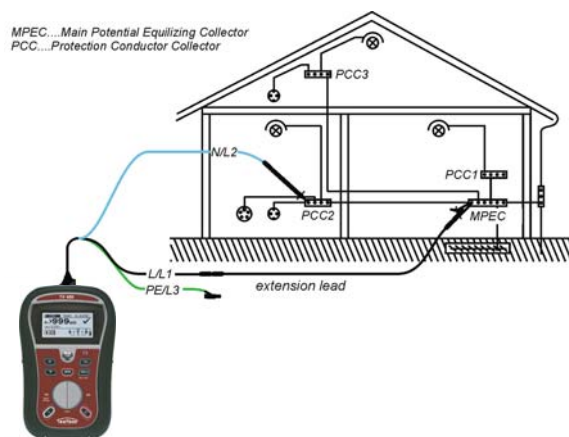

Figure 5.9: Connection of 3-wire test lead plus optional extension lead
- Connect** the test leads to the appropriate PE wiring (see *figure 5.9*).